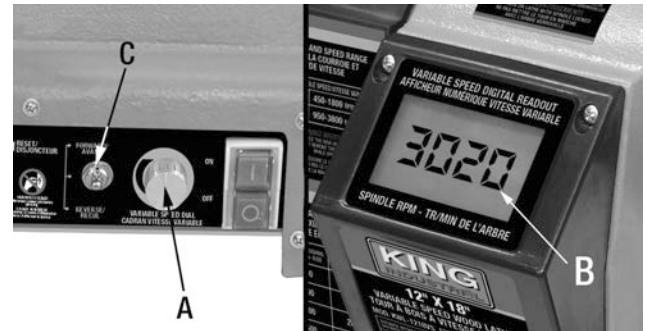

FIGURE 16
The variable speed dial (A) Fig.16 determines the speed in RPM's at which the spindle will turn, this speed is indicated on the digital readout screen (B).
This wood lathe comes with a 3 position forward/reverse switch (C) Fig.16 which sets the direction of rotation of the spindle. Move the switch to the up position for forward rotation. To set the rotation in the reserve direction, lower the switch to the centre position, then lower it again to the down position. If the direction of rotation is changed while the spindle is turning, the wood lathe will automatically turn off and it will be necessary to turn the wood lathe back on.